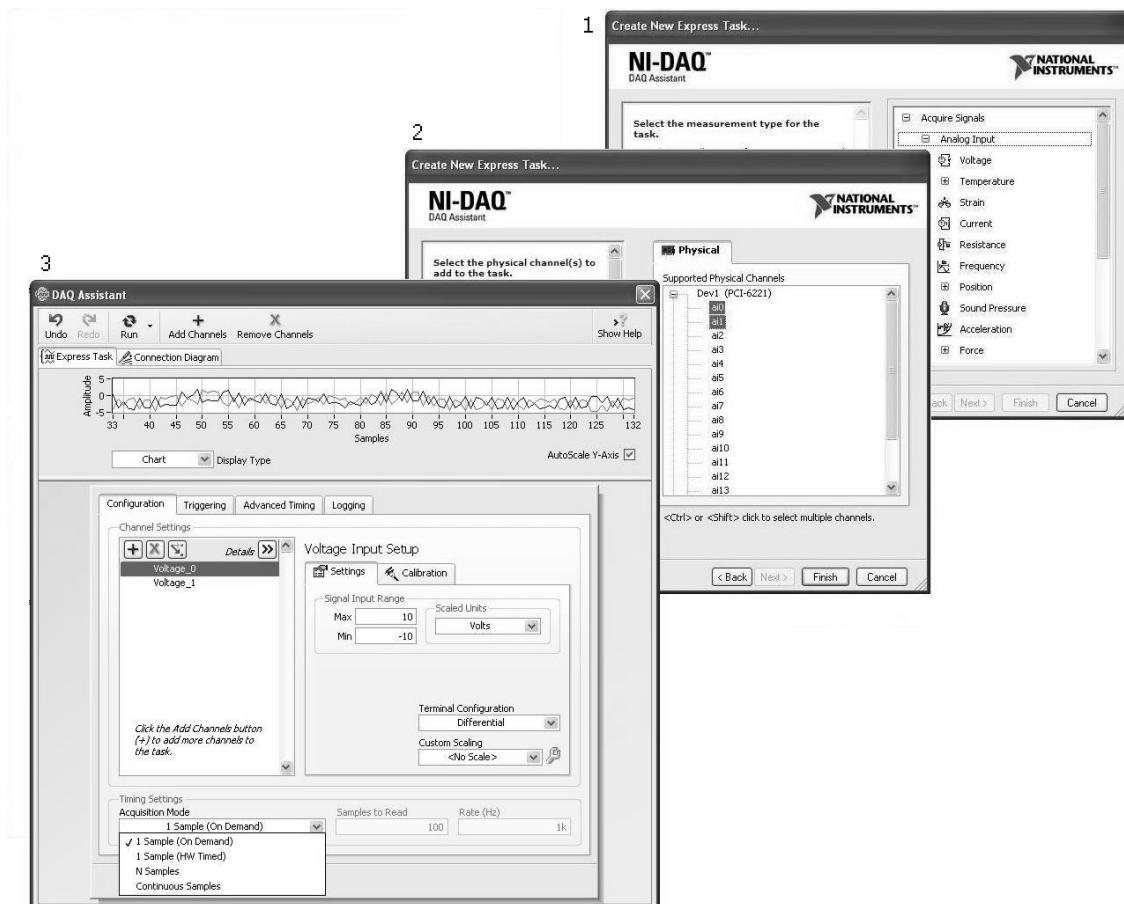

Figure 1.4.4 Using the DAQ Assistant to configure an analog input measurement task
The DAQ Assistant guides the user through a series of windows to configure the data acquisition task as shown for an analog input measurement task in Fig. 1.4.4. The DAQ
Assistant automatically launches when placed in the block diagram. The “Create New Express Task...” window sets up the measurement type for the data acquisition task. You select if the data will be acquired or generated for the measurement type (this view is not shown in Fig. 1.4.4). If you expand the list, you can see that analog, digital, and counter modes are available for both “acquire” and “generate”. By further expanding the list, you can see what types of measurements are supported for each mode. For example, the different types of analog input measurements are shown in the first view of Fig 1.4.4. Once you select the type of measurement you want, for example, a voltage analog input measurement was selected in Fig. 1.4.4, the DAQ Assistant then lists the channels that are available for that type of measurement based on the DAQ board in your computer. This is the second view in Fig. 1.4.4. After you select the channel(s) that you want, a DAQ Assistant window opens, as shown in the third view of Fig. 1.4.4, which allows you to configure the channel(s).
7. Click on “Acquire Signals”, “Analog Input”, and “Voltage” as shown in Fig. 1.4.4 to create a measurement task that can sample a continuously varying voltage signal.